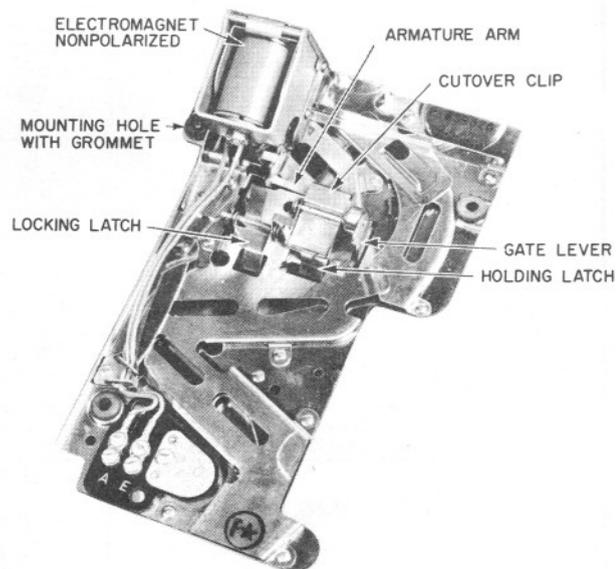

Fig. 11 — Prepay Coin Chute Equipped with Cutover Clip for 5-cent Service
4.12 Manual postpay coin collectors may use a 10-cent coin chute or coin-chute assembly when the chute is equipped with a P-339098 cut-over clip to hold the electromagnet arm in its operated position (see Fig. 11).